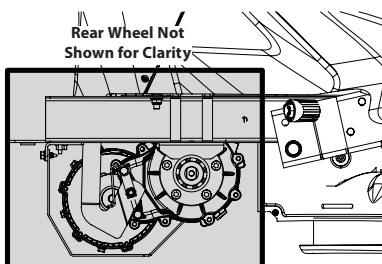

Figure 14
- Clean around and near the transmission and axle. See Figure 14.